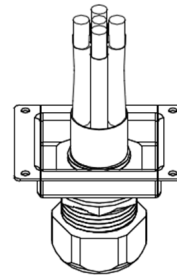

Figure 29 Cable through gland
5. Pull the cable through(see fig 29).